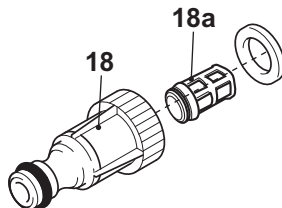

Fig. 25
- > Unscrew and remove the water inlet hose adaptor (18) from the water inlet (13).
- > Disassemble the water inlet hose adaptor (18) (Fig. 25).